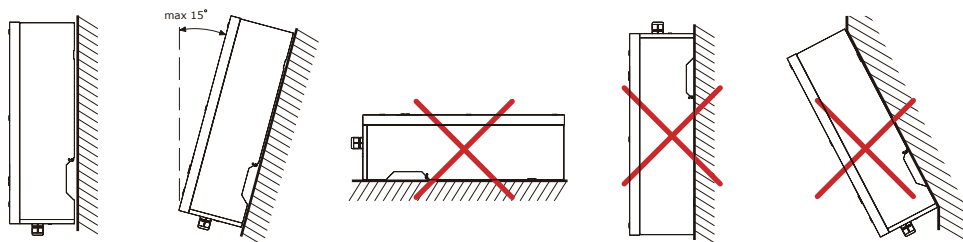

Figure 8 Incorrect installation
- Tilted degree should not exceed 15 degree, as figure 8: